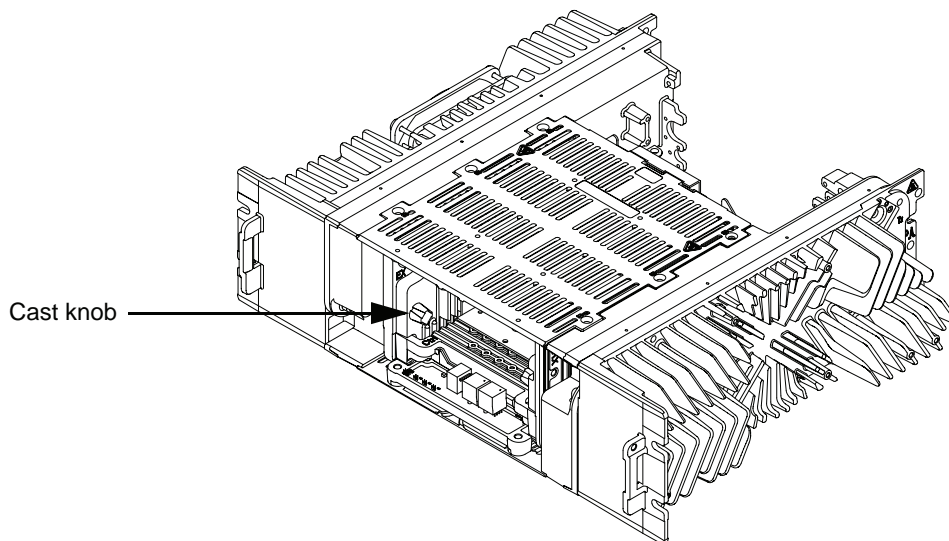

Figure 10-2 Removing RF cable
2. Disconnect the Exciter-to-PA Coaxial Cable and Rx Input Cable (Refer to Figure 10-2). By disconnecting the cables, the Exciter Module, Receiver Module, Station Control Module (SCM) are accessible.